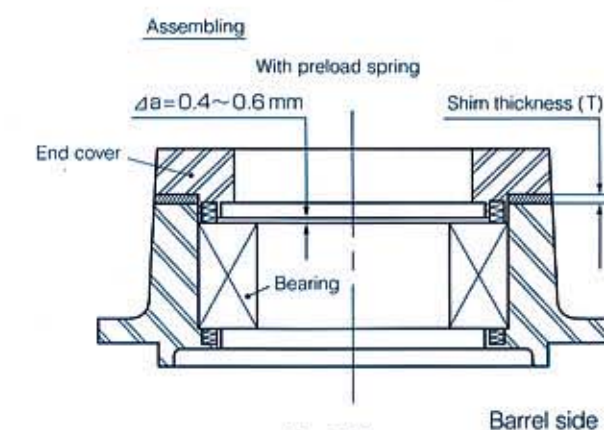

Fig. 3.37
- (4) Remove the end cover and install the springs, then assemble the bearing and install the shim of predetermined thickness (T). This thickness can be determined. (Fig. 3.37, Table 3.1)
- (5) Other cautions.